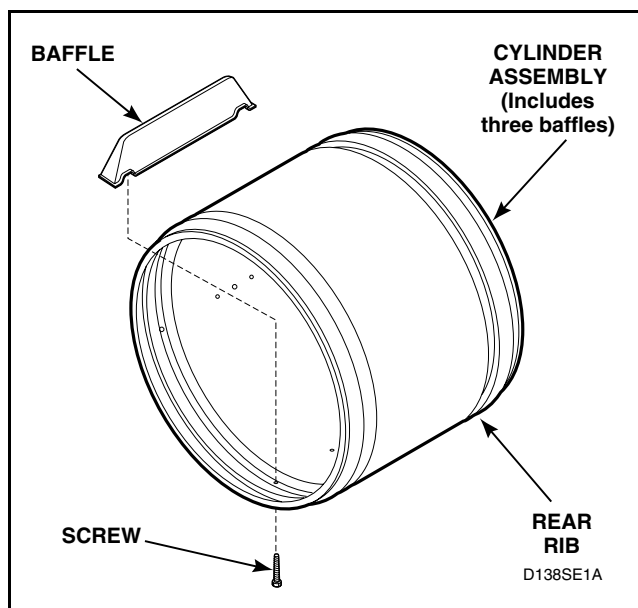

Figure 53
**NOTE:** When installing belt, be sure belt is properly installed on motor and idler pulleys, and is on the correct side of the idler lever. Refer to *Figure 45*. Belt must be positioned around cylinder approximately three inches ahead of the rear rib on cylinder, with the ribbed surface of the belt against cylinder. Refer to *Figure 53*. After installing belt, manually rotate cylinder counterclockwise to check that belt is properly aligned.
**NOTE:** When installing belt, be sure belt is properly installed on motor and idler pulleys, and is on the correct side of the idler lever. Refer to *Figure 45*. Belt must be positioned around cylinder approximately three inches ahead of the rear rib on cylinder, with the ribbed surface of the belt against cylinder. After installing belt, manually rotate cylinder counterclockwise to check that belt is properly aligned. Refer to *Figure 53*.
Remove screws holding baffles to cylinder. Refer to *Figure 53*.
**NOTE: When installing belt, be sure belt is properly installed on motor and idler pulleys, and is on the correct side of the idler lever. Refer to *Figure 45*. Belt must be positioned around cylinder approximately three inches ahead of the rear rib on cylinder, with the ribbed surface of the belt against cylinder. After installing belt, manually rotate cylinder counterclockwise to check that belt is properly aligned. Refer to *Figure 53*.**
**NOTE: When installing belt, be sure belt is properly installed on motor and idler pulleys, and is on the correct side of the idler lever. Refer to *Figure 45*. Belt must be positioned around cylinder approximately three inches ahead of rear rib on cylinder, with the ribbed surface of the belt against cylinder. After installing belt, manually rotate cylinder counterclockwise to check that belt is properly aligned. Refer to *Figure 53*.**